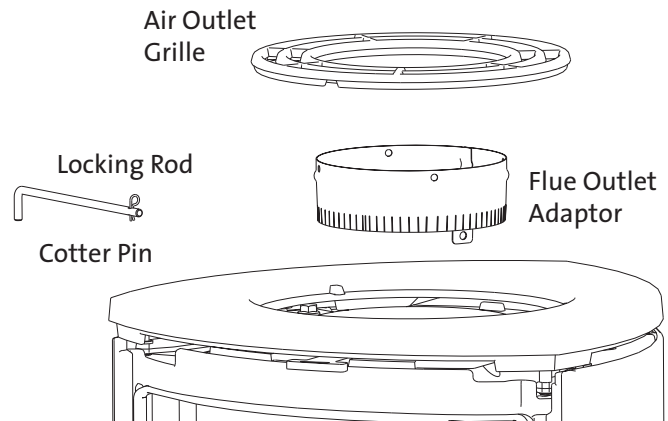

Figure 16. Installing the Outlet Adaptor and Flue Collar Grille.
2. Attach the crimped end of the first section of chimney connector to the Flue Outlet Adapter with sheet metal screws. Push the Outlet Adaptor fully into the flue collar. Fig. 16.